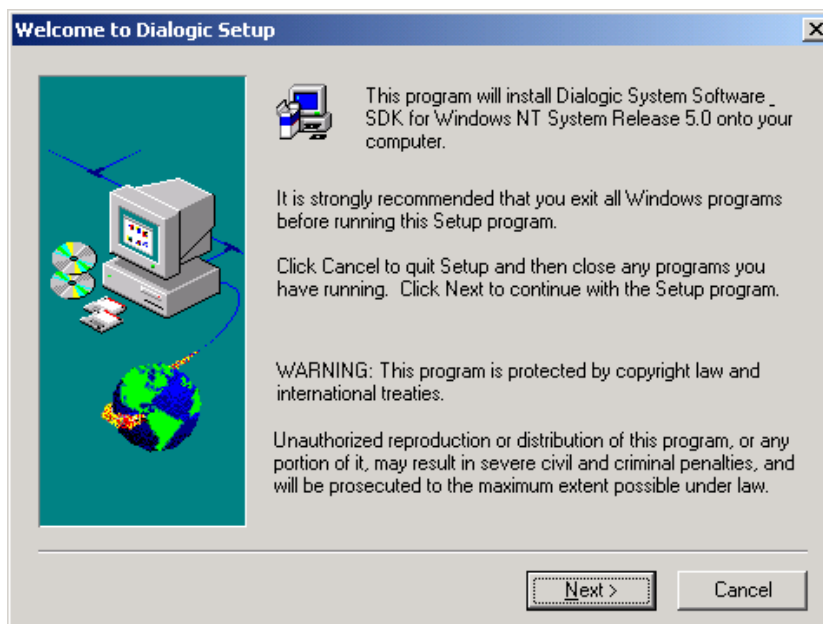

Figure B.8. Welcome to Dialogic Setup Installation Screen
2. The **Welcome to Dialogic Setup** dialog box will appear, as shown in **Figure B.8**. Click the **Next** button to continue.